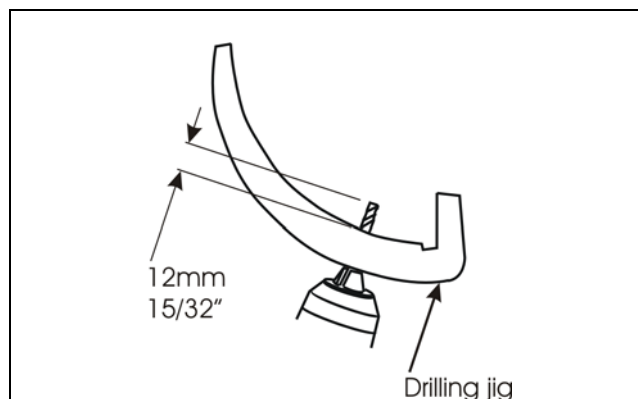

FIGURE 3: PROPER DRILL BIT POSITION IN CHUCK
4. Position drill bit #30 (P/N 683131) into the chuck so it doesn't exceed the drilling jig more than 15/32" (12mm) (figure 3). This must be done in order to avoid contact between the drill bit and internal rib of the aluminum extrusion.